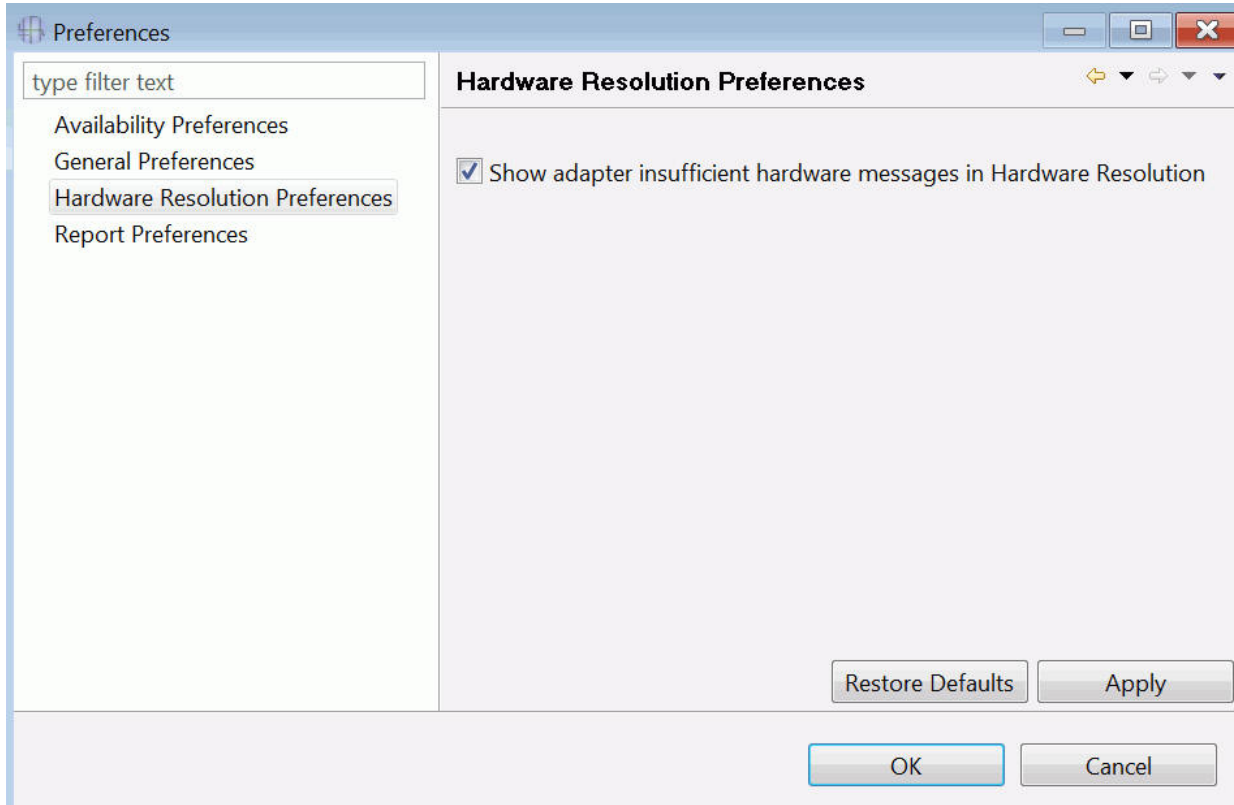
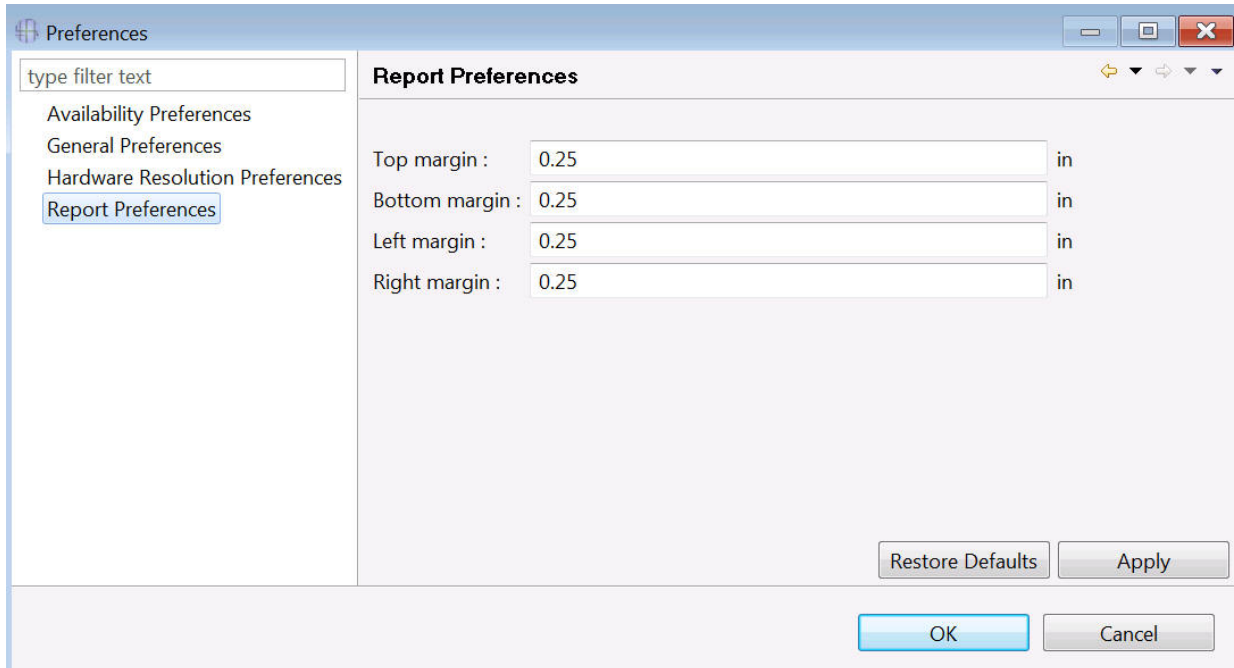

Figure 61. The Hardware Resolution Preferences page of the Preferences
Figure 62. The Report Preferences page of the Preferences window
2. Ensure the Preference page you want is selected in the navigation tree on the left. Figure 61 on page 47 and Figure 62 on page 48 shows the Preferences window with the Hardware Resolution Preferences and Report Preferences pages selected.